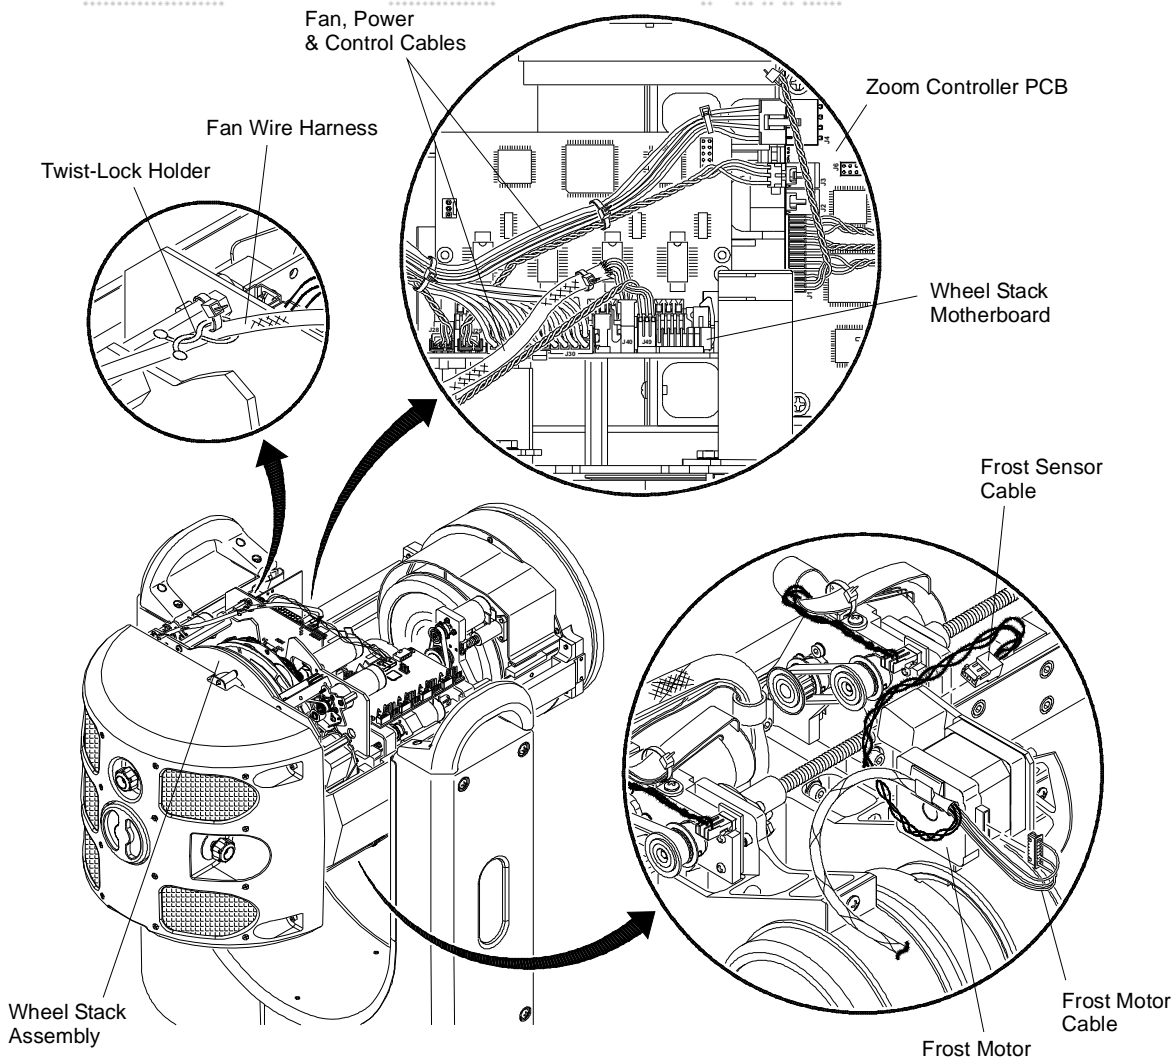

Figure 3-19: Disconnecting Wheel Stack Wiring
- Step 3. At top of head assembly, disconnect the following Wheel Stack wiring (**Figure 3-19**):
- Step 4. At bottom of head assembly, disconnect the following Wheel Stack Wiring (**Figure 3-19**):